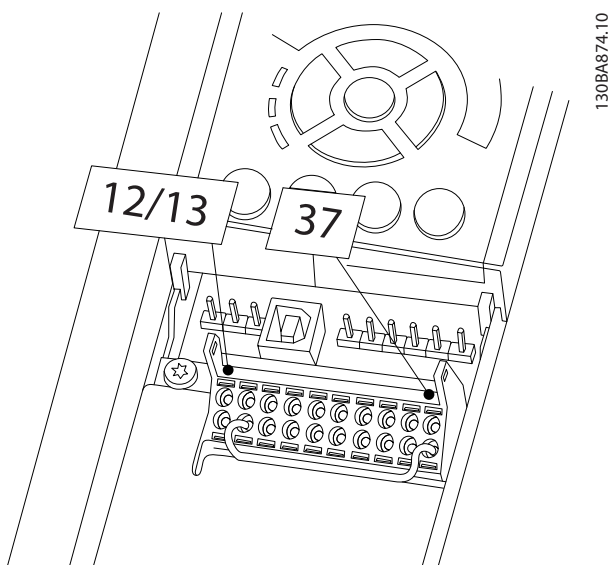

Figure 2.2 Jumper between Terminal 12/13 (24 V) and 37
1. Remove the jumper wire between control terminals 37 and 12 or 13. Cutting or breaking the jumper is not sufficient to avoid short-circuiting. (See jumper on *Figure 2.2*.)